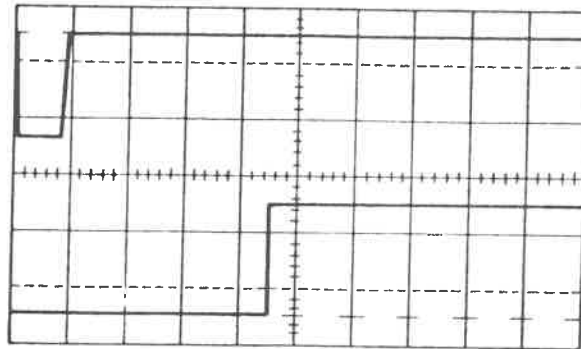

FIGURE 3-5. Track 00 Alignment Waveforms
9. Verify that Track 0 is active between 4.0 ms and 5.0 ms after the step out pulse as shown in Figure 3-5.